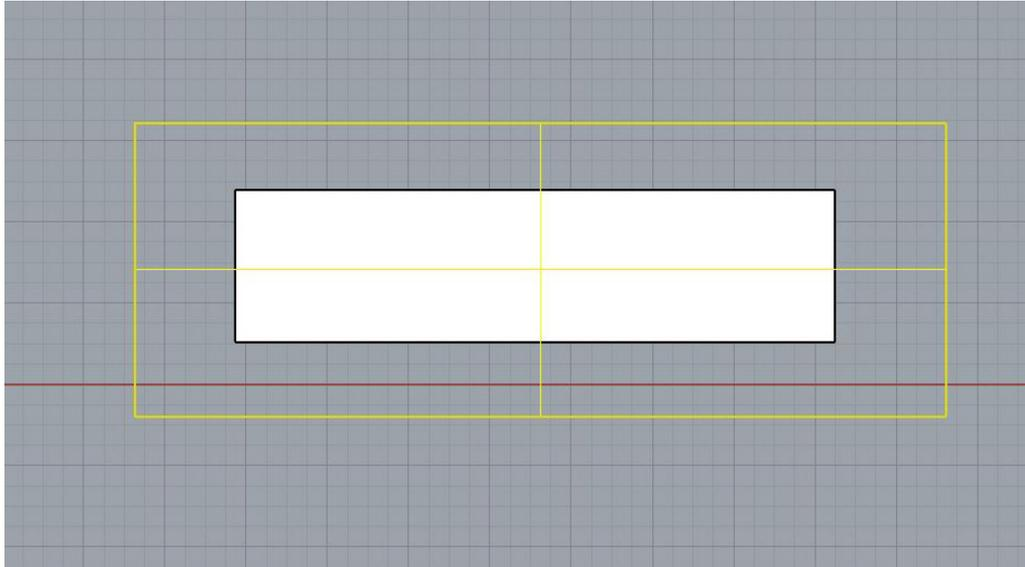

Figure 1.8 Planar surface extending beyond the unrolled surface.
9. Create a planar surface that extends past the unrolled surface on all sides. (figure 1.8).